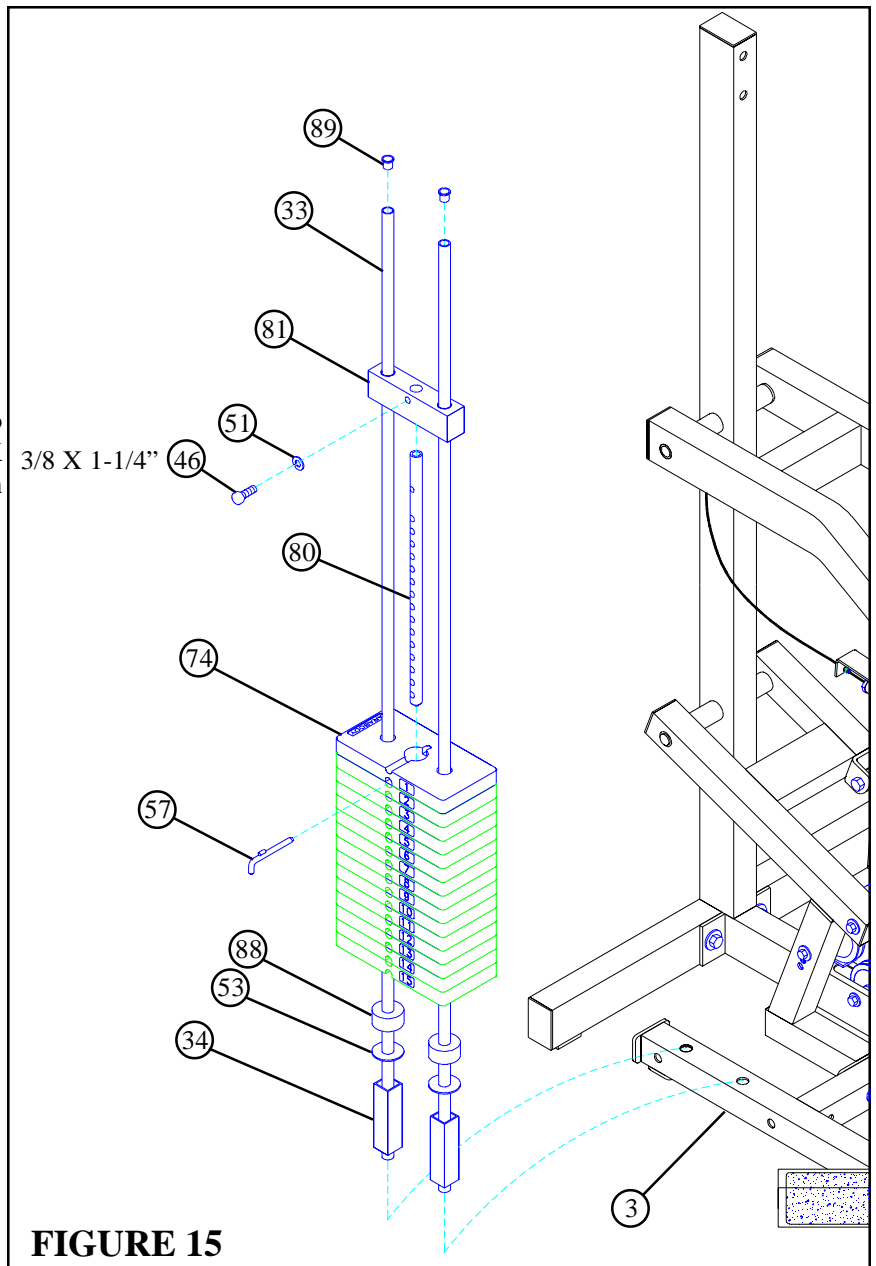

FIGURE 15
- Securely assemble the WEIGHT STACK SHAFT (80) to the HEAD PLATE (81) using one 3/8 X 1-1/4" BOLT (46) and one 3/8" WASHER (51).
- Insert two GUIDE RODS (33) into the WEIGHT STACK BASE (3) as shown on FIGURE 15. (**NOTE: Lubricate GUIDE RODS (33) with silicon or teflon spray available at most hardware stores.**)
- Slide two WEIGHT STACK SPACERS (34), two 3/4" WASHERS (53), and two WEIGHT STACK CUSHIONS (88) - **IN THAT ORDER** - down over the GUIDE RODS (33).
- Using **EXTREME CARE** slide all fifteen WEIGHT PLATES (74) down over the GUIDE RODS (33) on to the WEIGHT STACK CUSHIONS (88). Make sure that the keyholes of the WEIGHT PLATES (74) are all facing the right way.
- Slide the head plate assembly down over the GUIDE RODS (33) onto the weight stack.
- Insert two CAP PLUGS (89) into the top ends of the GUIDERODS (33).
- Attach the WEIGHT STACK LABELS (94) to the weight stack. Also insert the WEIGHT STACK PIN (57) into the first WEIGHT PLATE (74) of the weight stack.